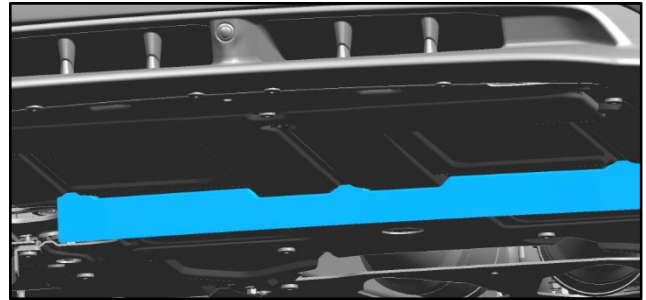

Figure 21 (60mm height)
- If the air dam is the same as Figure 21, no additional work is necessary. Go to step 27.